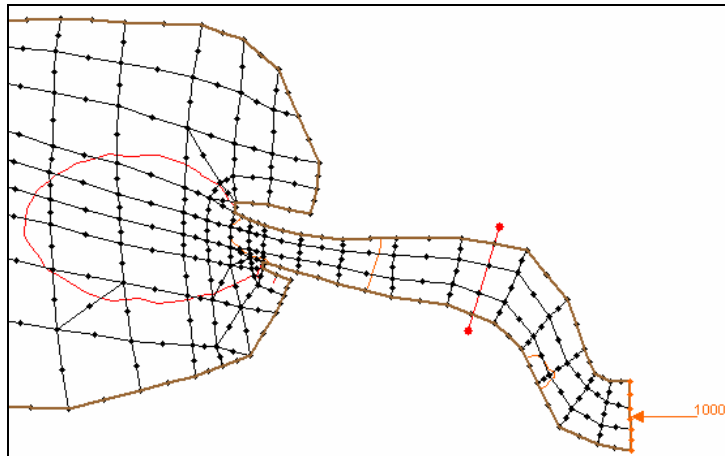

Figure 10 Observation arc across *noyo1.sms* mesh
5. Create an observation arc across the mesh as shown in Figure 10.